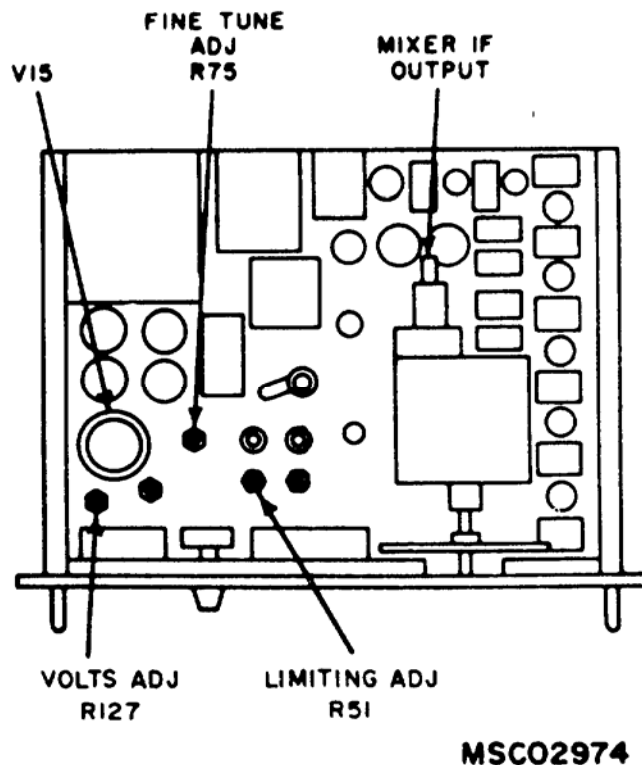

Figure 1. Modulation meter - top view.
- (1) Set **FREQUENCY RANGE-MC** switch to **250-500** and adjust **FREQUENCY-MC** dial to **400** using **TUNING** knob.
- (2) Set signal generator for a 400 MHz, 5 mV output.
- (3) Adjust **TUNING** knob for maximum indication on **LIMITING** meter while maintaining 5 mV level. If **LIMITING** meter pointer is not within the black area, perform **b** below.
b. Adjustments. Adjust **LIMITING ADJ R51** (fig. 1) until **LIMITING** meter pointer is at beginning edge of black area (R).
- (1) Set signal generator frequency to 50.25 MHz.
- (2) Adjust FINE TUNE ADJ R75 (fig. 1) until **CARRIER SHIFT** meter indicates -250 kHz (R).
- (3) Set signal generator frequency to 49.75 MHz.
- (4) Adjust FINE TUNE ADJ R75 (fig. 1) until **CARRIER SHIFT** meter indicates +250 kHz (R).
- (5) Repeat (1) through (4) above until no further adjustment is required.
a. Performance Check. Connect multimeter **INPUT HI** to pin 6 of V15 (fig. 1) and **LO** to chassis ground. If multimeter does not indicate between 189.15 and 200.85 V dc, perform **b** below.
b. Adjustments. Adjust VOLTS ADJ R127 (fig. 1) for a 195 V dc multimeter indication (R).